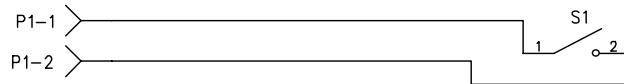

Figure 3-5. External Interlock
4. Figure 3-5 shows the wiring diagram for the switch. One wire runs from pin 1 of the connector to the normally open contact of the switch. The other wire runs from pin 2 to the common terminal of the switch. The switch is shown in the open position. This is the condition in which you do not want the laser beam to operate.